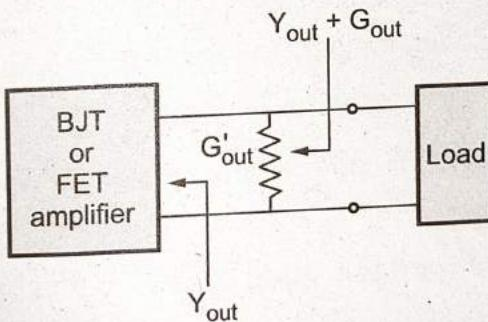

Fig. 5.6.14 Stabilization of output port through shunt conductance
- Configuration for stabilization of output port through shunt conductance is shown in Fig. 5.6.14.